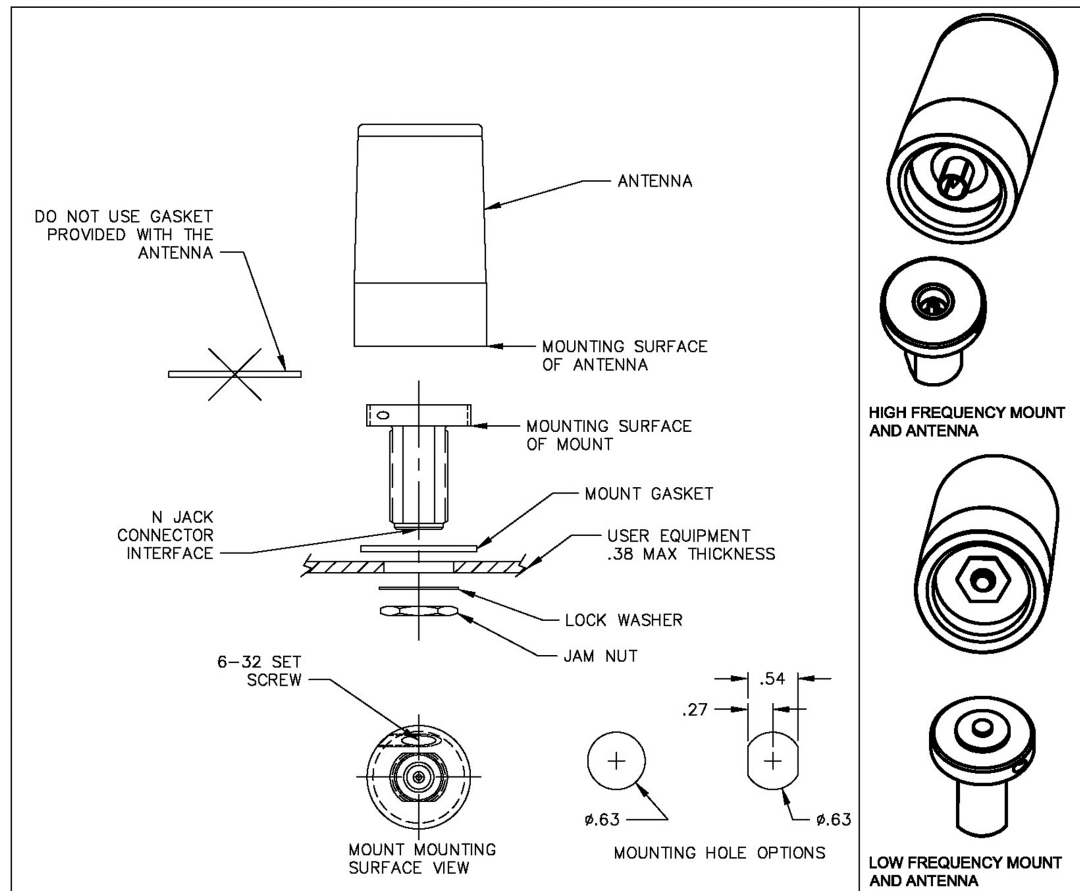

FIGURE 1
- 3) Assemble the antenna and mount assembly through a 5/8 (0.63) inch diameter hole or slotted hole, as detailed in Figure 1, in the user equipment. The gasket that is provided with the antenna shall be discarded.